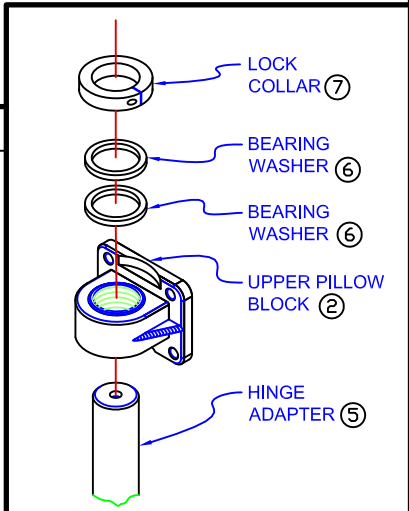

Figure 3
PLACE UPPER PILLOW BLOCK ③ OVER UPPER HINGE ADAPTER ⑤ SHAFT WITH THE NOTCH POINTING DOWN. PLACE THE TWO (2) BEARING WASHERS ⑥ OVER UPPER HINGE ADAPTER ⑤ SHAFT. PLACE LOCK COLLAR ⑦ OVER UPPER HINGE ADAPTER ⑤ SHAFT "DO NOT TIGHTEN AT THIS TIME" (See Figure 3).